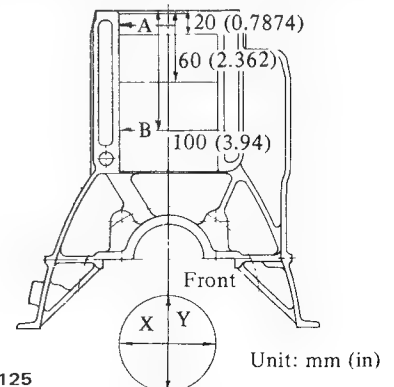

Fig. EM-50 Cylinder bore measuring positions
3. Using a bore gauge, measure cylinder bore for out-of-round or taper. If, out-of-round or taper is excessive, rebore the cylinder walls by means of a boring machine. Measurement should be taken along bores for taper and around bores for out-of-round. See Figure EM-50.
A bore gauge is used. Measure cylinder bore at top, middle and bottom positions toward A and B directions as shown in Figure EM-50 and record the measured values.